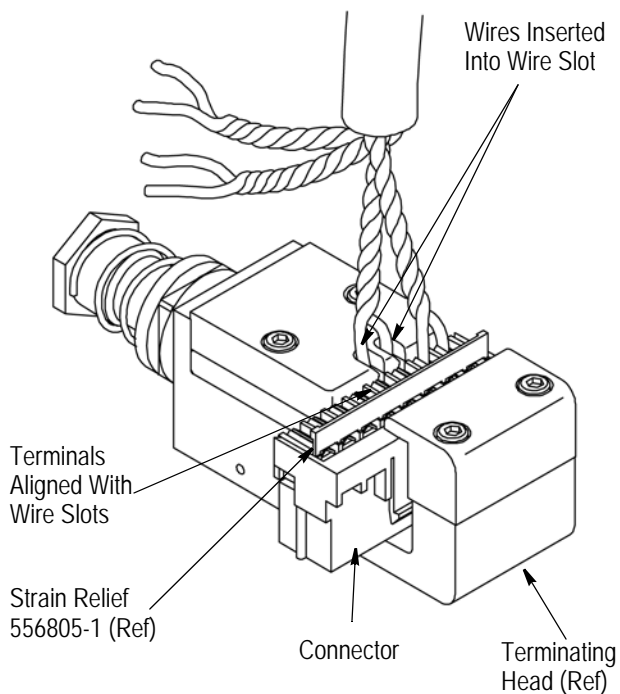

Figure 4
3. Select a pair of wires; then insert each wire into the appropriate wire slot that corresponds with the proper color code. Insert the wire until the twist of the wire pair is against the cover. See Figure 4.